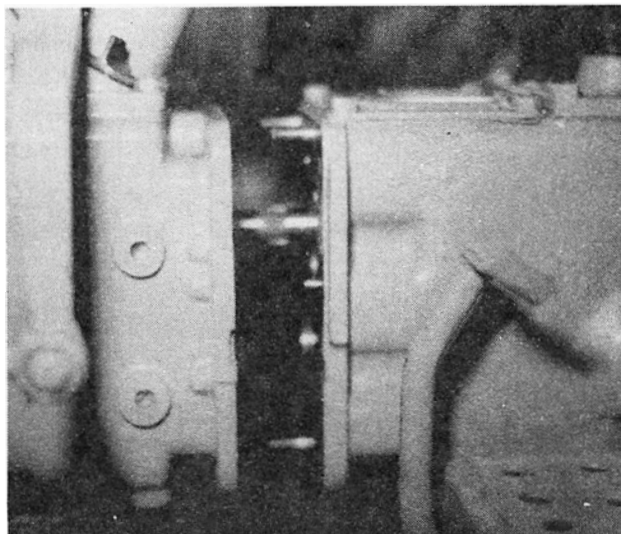

Figure 4
20. Remove the clutch rod and the retaining bolts which secure the clutch case to the transmission case and separate the transmission and clutch case, see Figure 4.